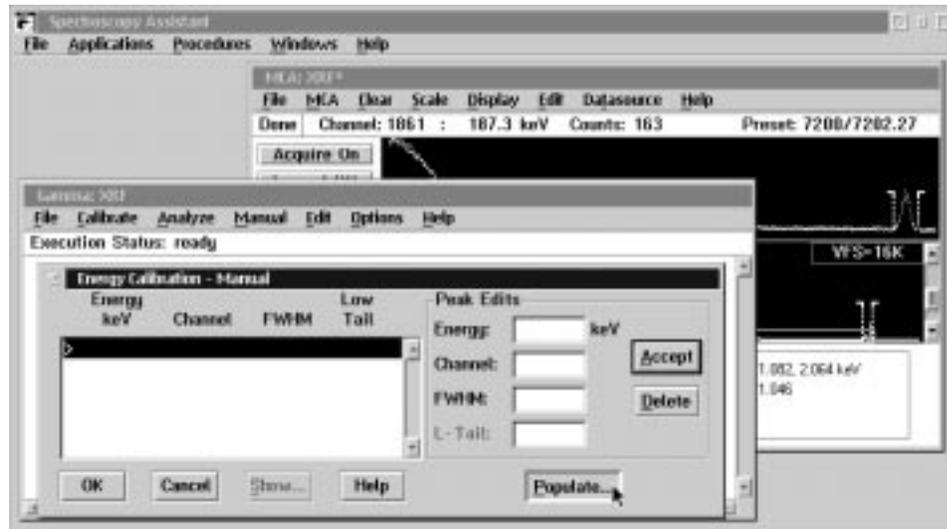

Figure 17. The “Energy Calibration – Manual” window showing selection of the “Populate” button.
22. In the “Energy Calibration – Manual” window, select the “Populate” button as shown in Figure 17.